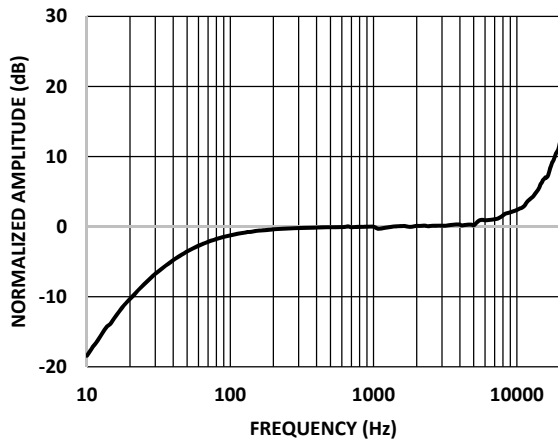

Figure 4. Typical Frequency Response
**Note 3:** See See Figure 4.
**Note 3:** See Figure 4.